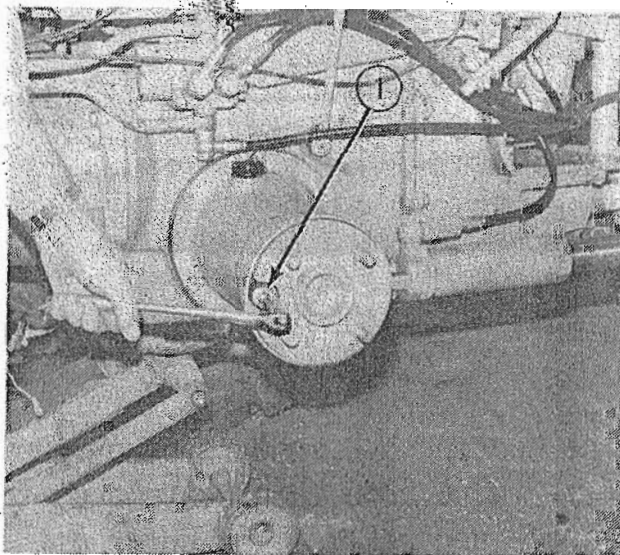

FIG. 1
After removing the wheel and working through the access slot in the face of the stub axle flange, remove (6) 10 x 25 mm. bolts that secure the bearing retaining cup to the face of the axle. (1, Fig. 1)